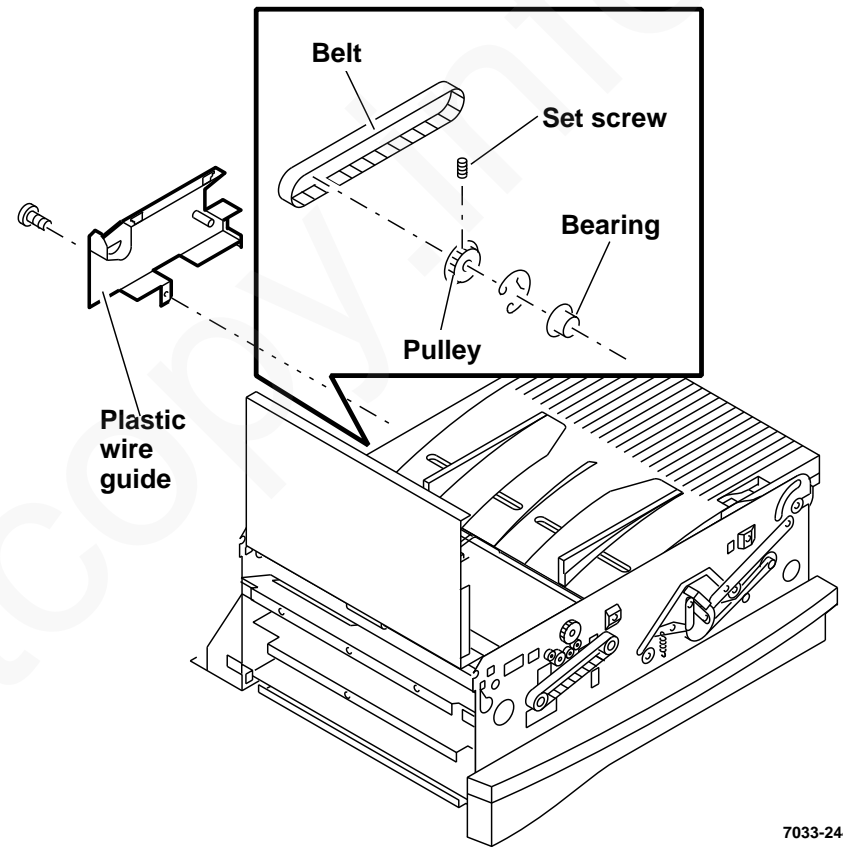

Figure 17. Rear belt, pulley, and bearing removal
- b. Remove securing screw, and remove plastic wire guide (Figure 17).
- e. Loosen set screw in pulley (Figure 17), and remove pulley.